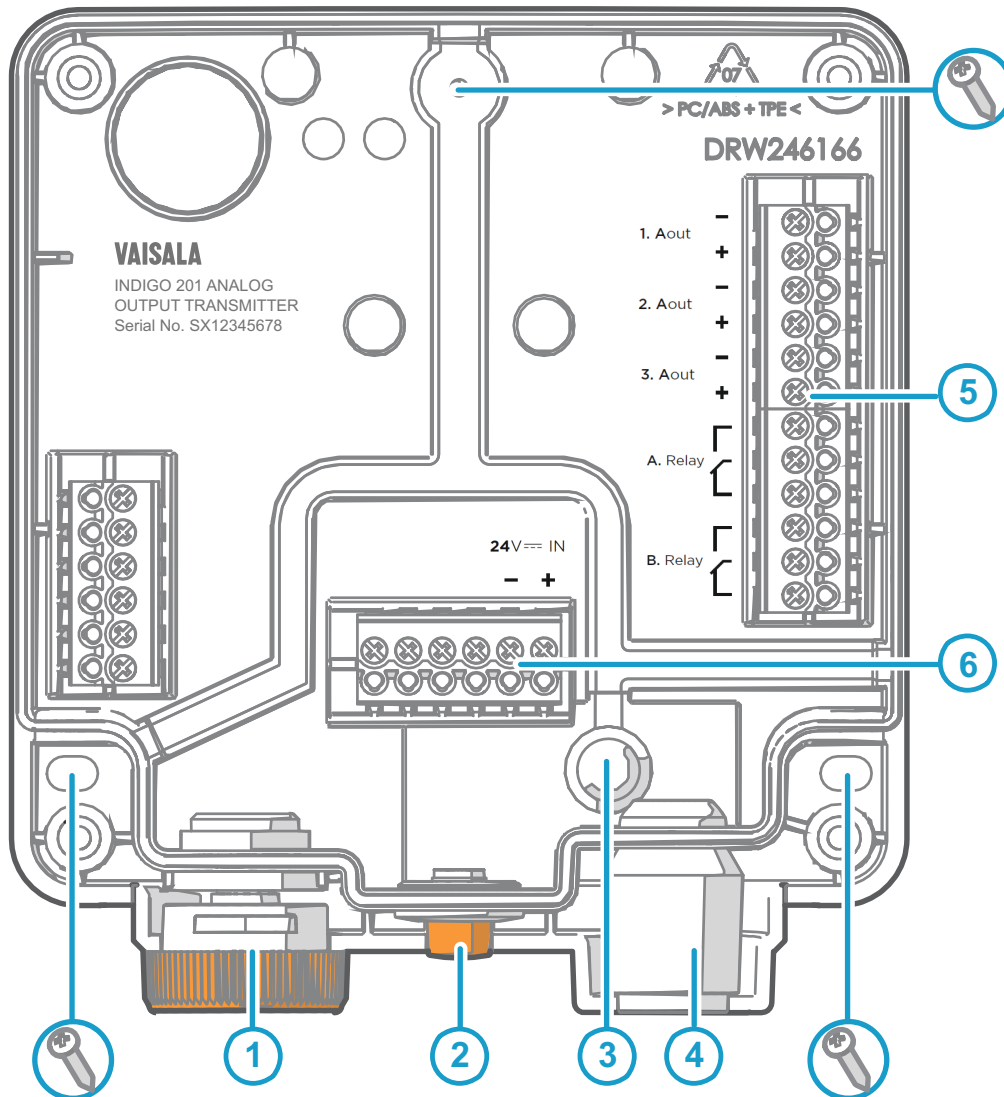

Figure 9 Indigo 201 Transmitter Base Main Parts and Screw Positions
4. Place the transmitter base on the installation surface and mount it with 3 screws. See the screw positions in Figure 9 \(page 18\).